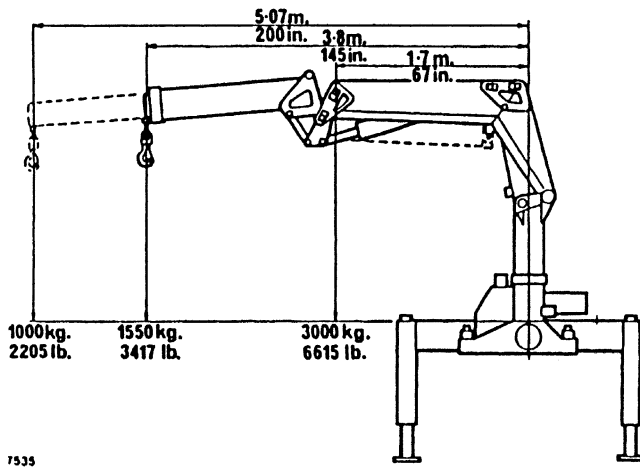

Fig 3 Crane loading chart
2. The crane lifting capacities relating to reach are as shown (Fig 3).